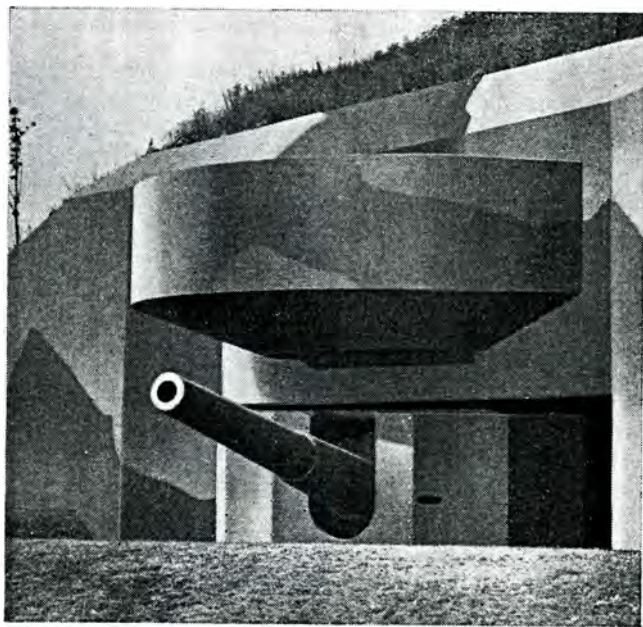

Figure 1. 12-inch casemated gun.
1. **SCOPE.** a. This manual prescribes the service of the piece for the modified 12-inch casemated gun (fig. 1) on the M1917 carriage. Guns, carriages, and batteries differ in type, arrangement, and design, and for this reason the service of the piece as prescribed in this manual is intended only as a guide for the battery commander in the assignment of individuals and duties. Changes in the details of the service of the piece to meet local conditions may be made. Where the battery is lacking in all or some of the modifications mentioned in b below, the battery commander should refer to FM 4-60.